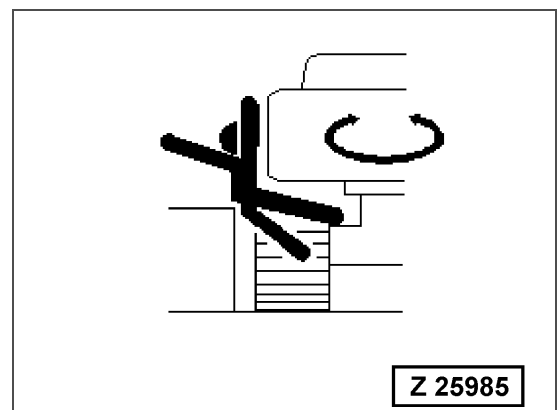

Fig. 2-23
- If there is an area to the rear of the machine which cannot be seen, position a signal person. Take special care not to hit other machines, objects or people when turning or swinging the machine (Fig. 2-23)